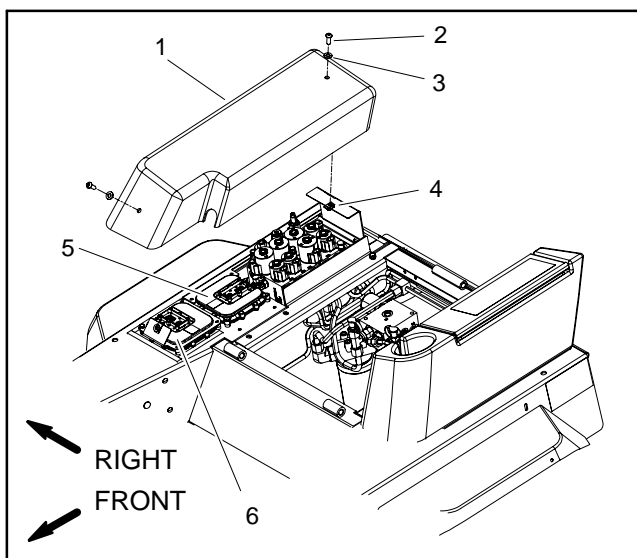
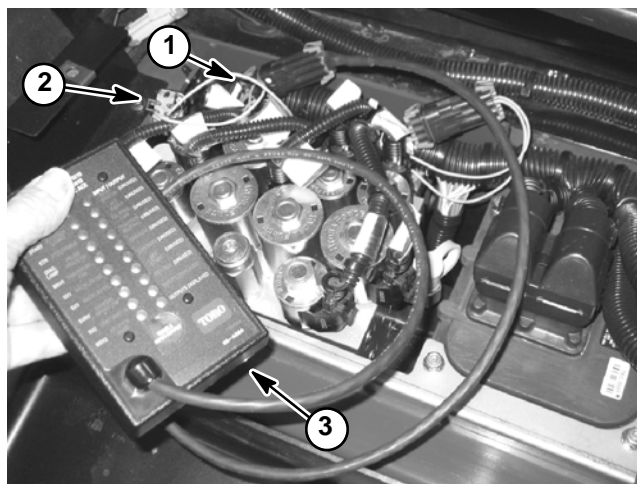

Figure 11
Figure 12
2. Remove the controller cover to allow access to wire harness loopback connector (Fig. 11). Locate wire harness communication port and loopback connector (Fig. 12). Carefully unplug loopback connector from harness connector.